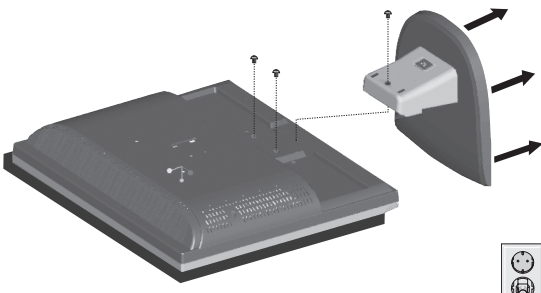

Figure R.2
3. Remove the 3 screws connecting the monitor to the stand and remove the stand as indicated (Figure R.2). The monitor is now ready for mounting in an alternative manner.